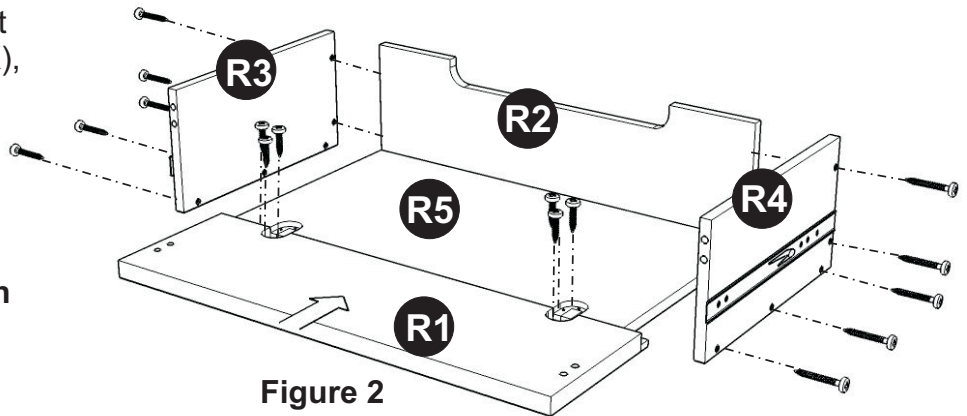

Figure 2
Assemble Foot (F), (G) and (H) with Cam Locks (see Figure 2).
Attach R1 to R5 with short wood screws (6X). (see Figure 2)